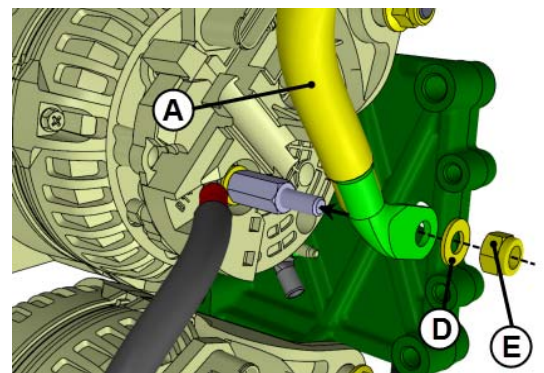

FIGURE 19
24. Reinstall the (+) power cable **A**. To do so, connect power cable **A** to the upper alternator **B1+** stud terminal. Refer to **FIGURE 19**.